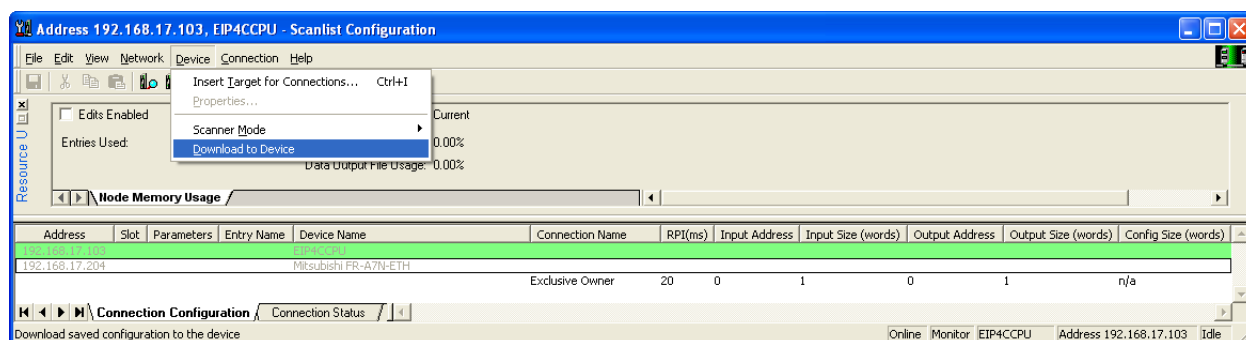

Figure 68: RSNetWorx Download Configuration to Scanner
- d) Now download the configuration to the scanner by navigating to Device->Download to Device (see Figure 68). Click Yes to proceed.